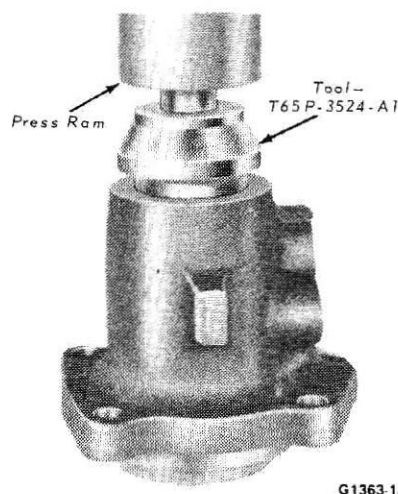

FIG. 11 Installing Valve Housing Bearing
8. Install the bearing in the valve housing and seat the bearing as shown in Fig. 11. Be sure the bearing rotates freely.